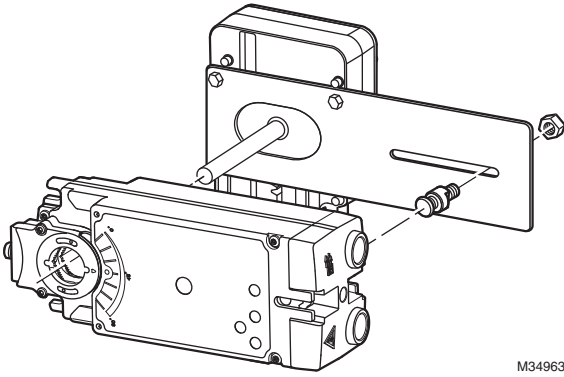

Fig. 3. Typical installation of direct coupled actuators.
6. Attach the anti-rotation hardware to the actuator mounting plate. See Fig. 3 through 5.